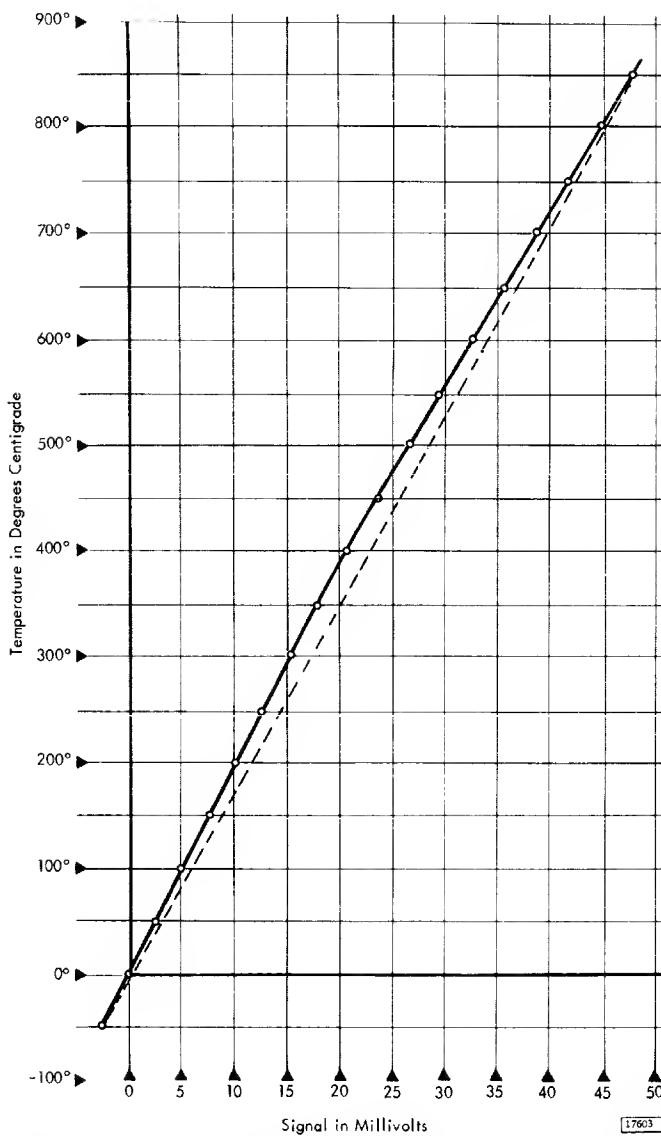

Figure 33.1. Iron-Constantan Thermocouple for -50°C to +850°C Range
1. Study the thermocouple temperature-to-millivolt curve and determine the number of segments or divisions that must be made to obtain the desired degree of accuracy. For example, the iron-constantan thermocouple curve shown in Figure 33.1 covers a temperature range of -50° to +850° C. This range may be divided into nine segments as